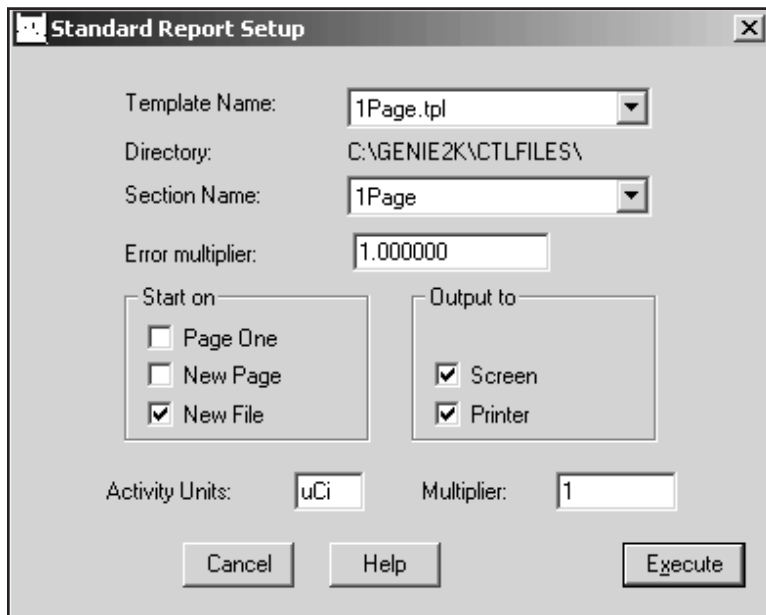

Figure 42 Selecting the Report's Parameters
- Select **Analyze | Report | Standard** (Figure 42) to open the Standard Report Setup dialog and select the parameters for generating the report.
Click the **Execute** button to generate the report. An example of a report created by the 1page.tpl Template you chose in Figure 42 is shown on page 53.